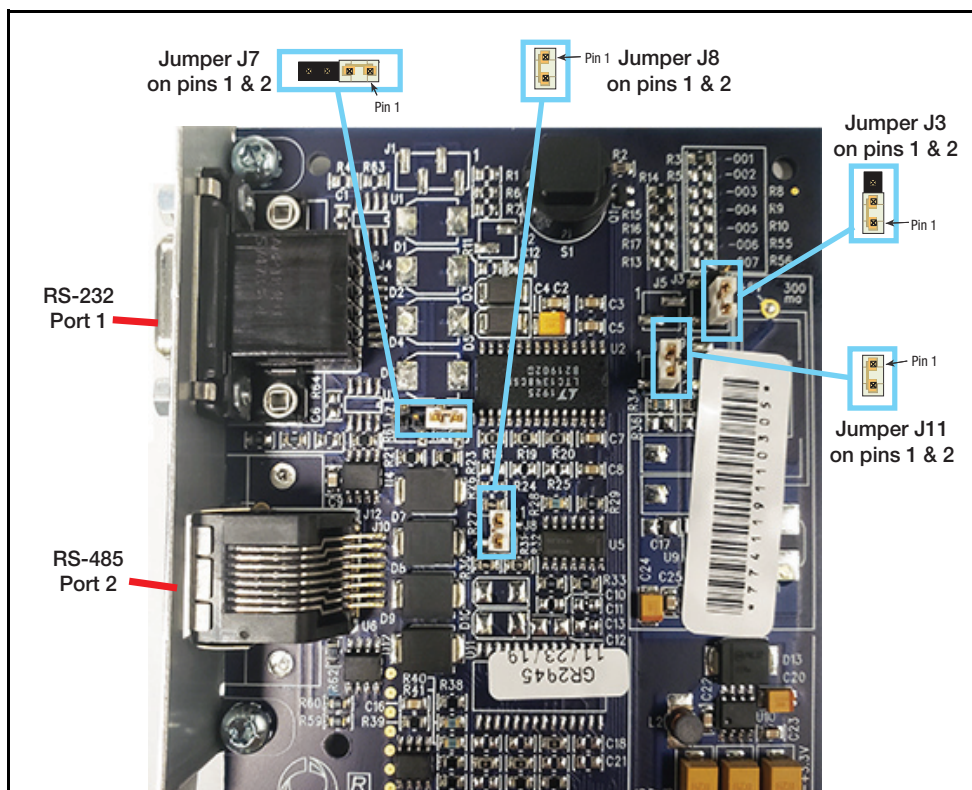

Figure 2. RS-232/RS-485 Dual Interface Module Jumper Positions
1. Prior to installation, verify the RS-232/RS-485 Dual Interface Module jumpers shown in Figure 2 are placed in the indicated positions.